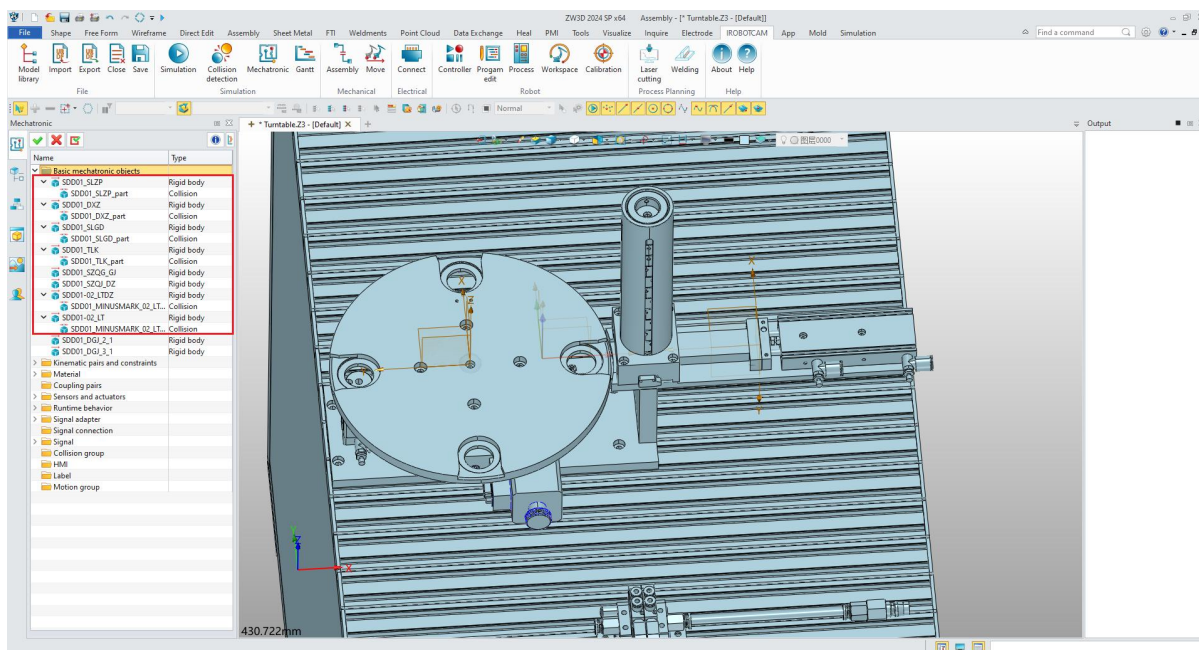

Figure 13-15: Six collision
- Create six collisions for the turntable components.(Figure 13-15)